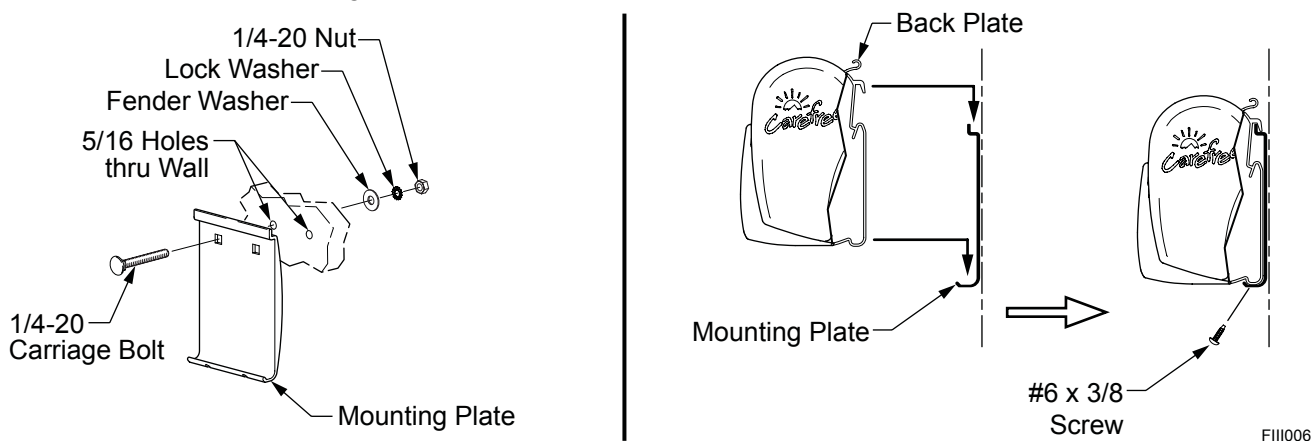

Figure 7. Mount Using Plates.
7. (Refer to Figure 7) Attach the mounting plates to the awning case using the self-tapping #6 x 3/8 screws.